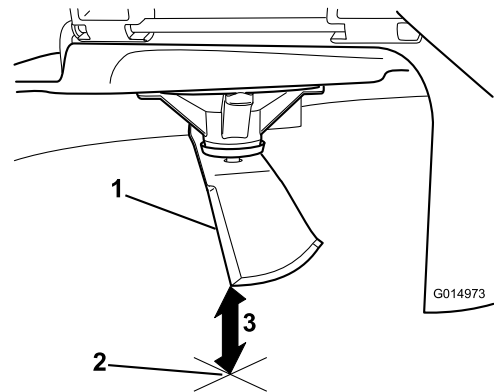

Figure 50
5. Measure from the tip of the blade to the flat surface (Figure 50).